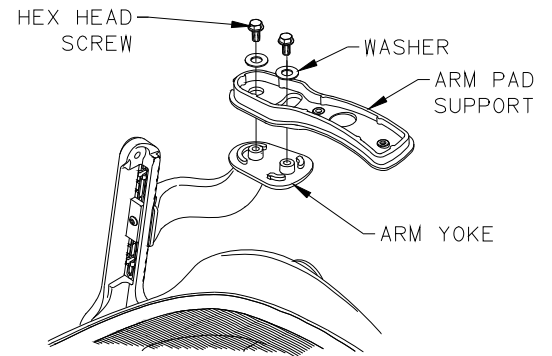

FIGURE 3
-FOR FIXED ARM, USING 13MM SOCKET AND RATCHET WRENCH, REMOVE AND SAVE HEX HEAD SCREWS WITH WASHERS, SECURING ARM PAD SUPPORT TO ARM YOKE. REMOVE AND SET ASIDE ARM PAD SUPPORT. SEE FIGURE 3.
-FOR FIXED ARMS, INSTALL ARM PAD SUPPORT, (2) WASHERS, AND HEX HEAD SCREWS TO ARM YOKE. TORQUE SCREWS TO 200-250 IN-LBS. SEE FIGURE 3.
-FOR VERTICALLY ADJUSTABLE ARMS, INSTALL VERTICALLY ADJUSTABLE SPACER TO ARM YOKE WITH TAB POINTING TO OUTSIDE OF ARM YOKE. INSTALL ARM PAD SUPPORT, (4) NYLON WASHERS AND HEX HEAD SCREWS TO ARM YOKE. TORQUE SCREWS TO 200-250 IN-LBS. IF CHAIR HAS (2) STEEL WASHERS AND (2) NYLON WASHERS, INSTALL AS INSTRUCTED ABOVE.